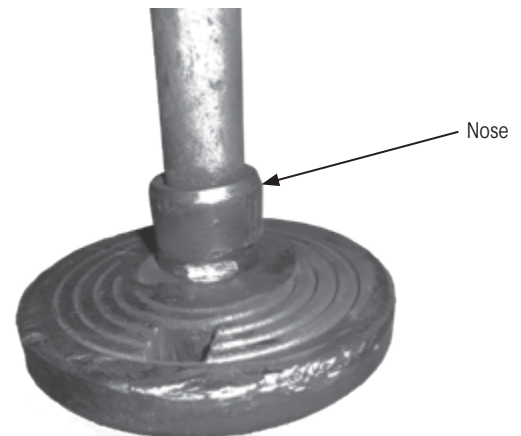

Figure 39: Loose pivot bolt collar nose damage
In severe cases, if gone unnoticed, movement against the edge of the frame bracket alignment slot (Figure 39) causes:
- Wearing down of the nose on the collar, which extends through the alignment slot, See Figure 39